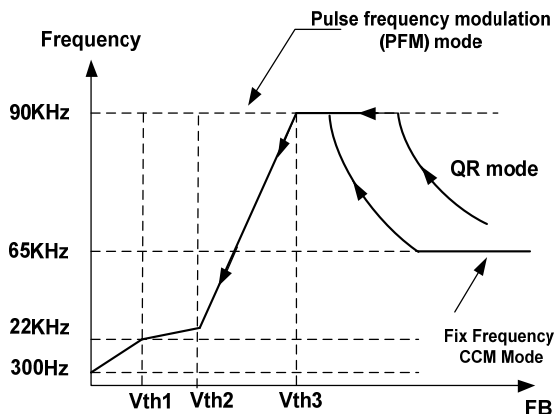

Figure 2 Multi-mode operation diagram
OB2374 is an excellent integrated multi-mode (see Figure 2) PWM controller optimized for off-line middle power AC/DC applications. It operates in continuous conduction mode (CCM) and quasi-resonant mode (QR) to provide high efficiency with primary side sensing and regulation thus provide cost effective solution for energy efficient power supplies.